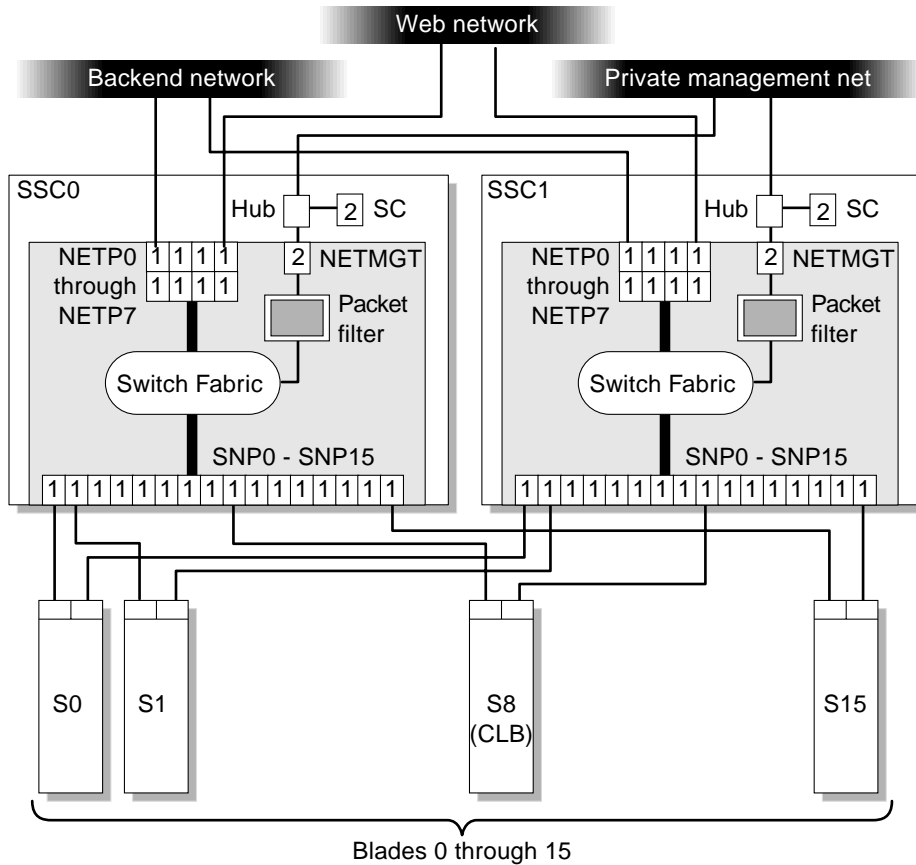

FIGURE 1-2 Dedicated Management Network and Web Server Network Isolated from the Backend Network
The numerals associated with each port (either 1 or 2), represent the VLAN numbers programmed into the system by default. The numbers indicate that there is one data VLAN (1), and one management VLAN (2). Further VLAN partitioning might be desirable as shown in FIGURE 1-2. The actual VLAN-ID assignment can be coordinated with the VLANs used in the external switches, or its scope can be limited to the internal switches, by keeping the uplinks as untagged VLANs.
FIGURE 1-2 illustrates nine shelves connected using a combination of distribution switches and internal SSC switches. Note that the SSC0 versus SSC1 fabric correspondence is preserved throughout the Layer 2 network, and that the fabrics are interconnected at the distribution switch level. In asymmetrical (capacity and hops) topologies like the one shown, it is also appropriate to house the content load balancing blades in shelves directly connected to the distribution switches.